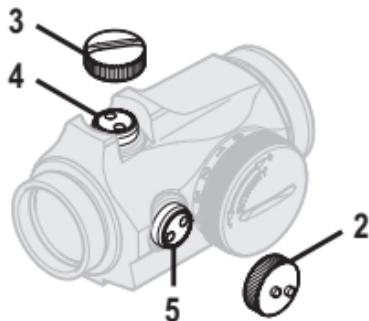

Fig. 2 Remove caps
- a. Open Lens covers (11) (12).
- b. Turn the Rotary switch (8) clockwise until the red dot has a suitable intensity to contrast against the target.
- c. To access the Elevation adjustment screw (4) and the Windage adjustment screw (5), remove the Adjustment cap (2) and the Cap (3). See Fig. 2.